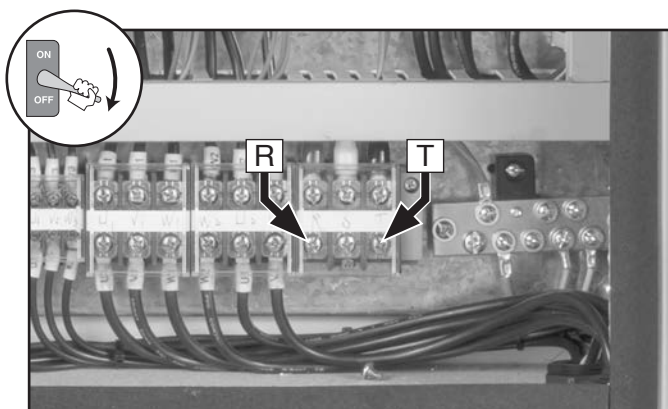

Figure 40. Location of R and T terminals.
2. Open electrical cabinet and swap wires connected to R and T terminals (see **Figure 40**).